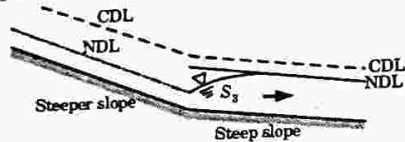

Fig. 2.16.6. S_3 profile.
a. The S_3 curve also results when a flow exists from a steeper slope to a less steep slope as shown in Fig. 2.16.6.